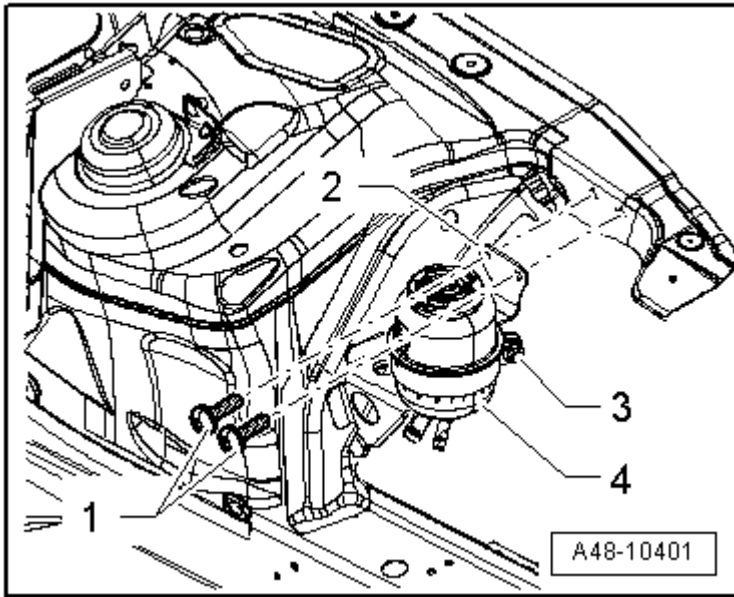

Fig. 41: Reservoir Bracket To Body
1. Reservoir bracket to body, refer to **Fig. 41**
3. Bolt inside the bracket, refer to **Fig. 41**